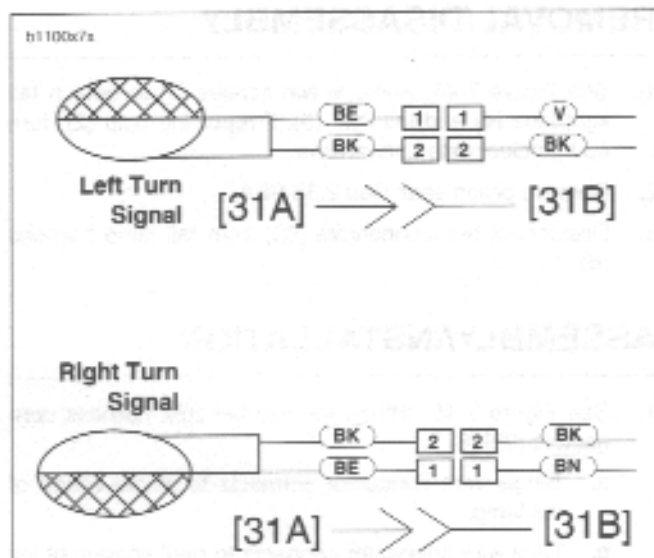
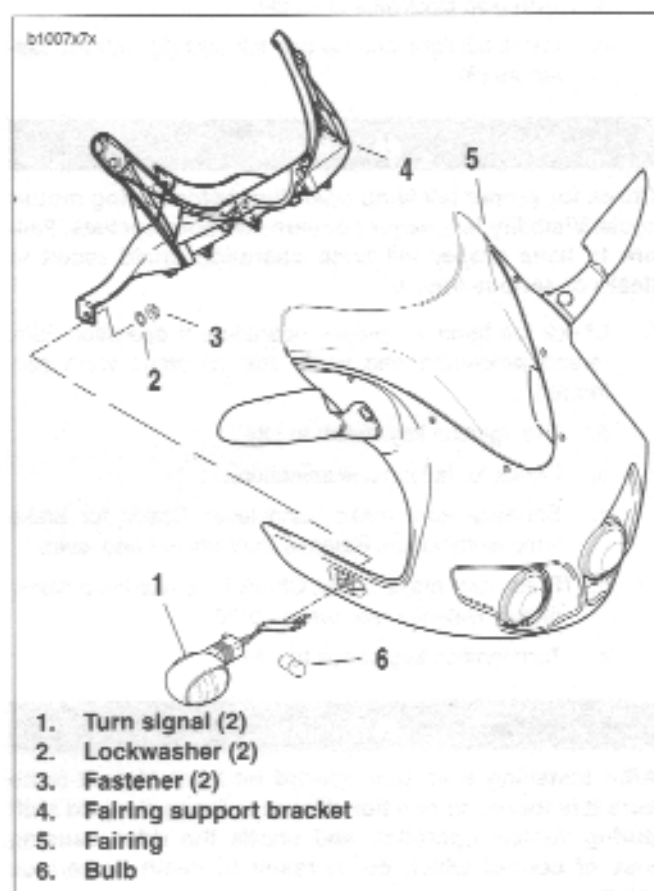

Figure 7-46. Front Turn Signal Connections
Figure 7-47. Front Turn Signals
1. See Figure 7-46. Disconnect bullet connectors on turn signal wires.
2. See Figure 7-47. Remove fastener (3) and lockwasher (2) from fairing support bracket (4).
3. Pull bullet connectors and wiring through hole in fairing support bracket (4) and fairing (5).
1. See Figure 7-47. Insert bullet connectors and wiring through hole in fairing (5) and fairing support bracket (4).
2. Install turn signal (1) using lockwasher (2) and fastener (3). Tighten fastener to 25-28 **in-lbs** (2.8-3.2 Nm).
3. Attach bullet connectors on turn signal wires as shown in Figure 7-46.